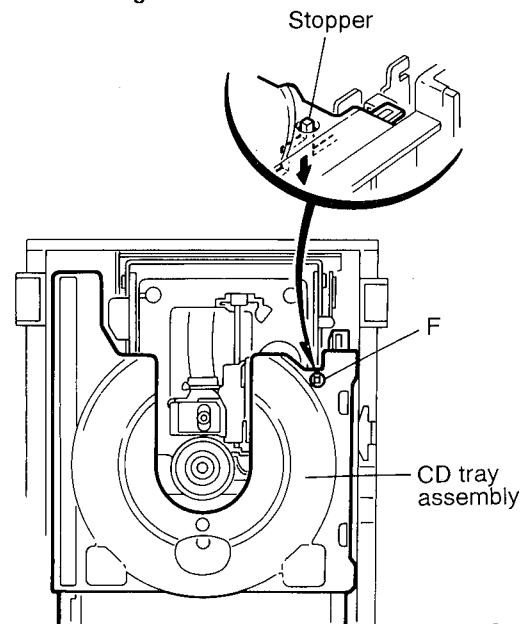

Fig. 2-16
10. Check whether the lifter unit stopper has been caught into the hole at the section (F) of CD tray assembly as shown in Fig. 2-16.
12. Manually turn the motor pulley in the clockwise direction until the lifter unit stopper is lowered from the section (F) of CD tray assembly (See Fig. 2-16).